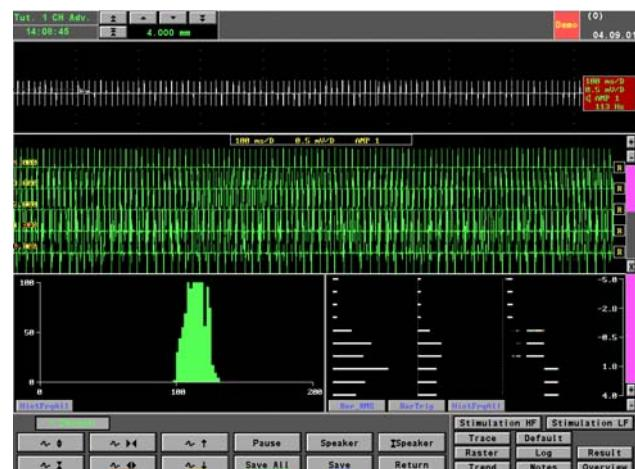

Figure 88 The Electrode Has Passed the Target by 4.000mm
- Alter the distance to the target from 4.000 to 5.000mm, see Figure 88 below: